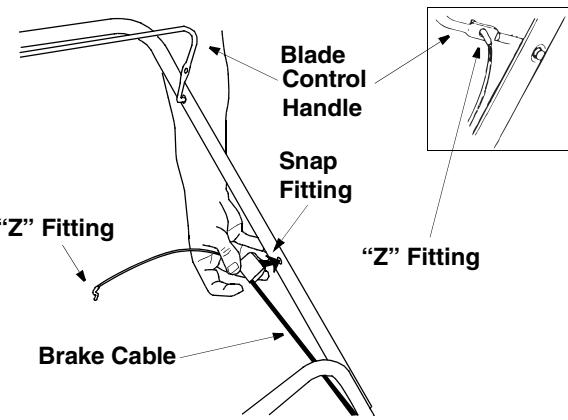

Figure 6
2. The brake cable is attached to the engine, and has a "Z" fitting on the loose end. Route the brake cable over the lower handle. Snap the plastic fitting into the hole on the inside of the upper handle as shown in Figure 6.
3. Hook the "Z" end of the brake cable into the hole in the blade control handle from the outside to the inside as shown in Figure 6, inset.